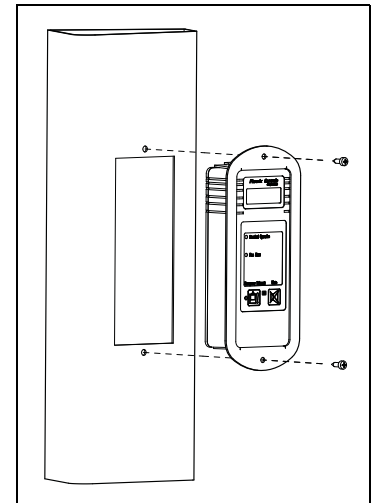

Figure 5. Attaching the Fume Hood Monitor to the fume hood (recess mount).
13. Mount the monitor and bracket assembly to the fume hood (see Figure 5 on the previous page):